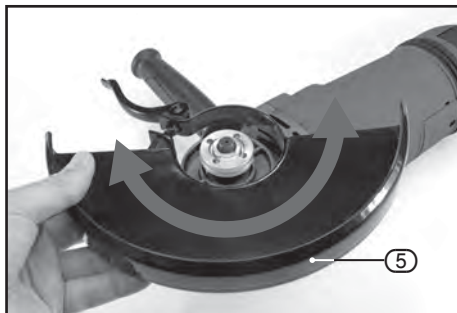

FIG.2
8.2 FITTING THE GUARD – FIGS. 2 – 3
- Position the guard (5) onto the grinder collar with the quick release lever in the open position (FIG.2) .